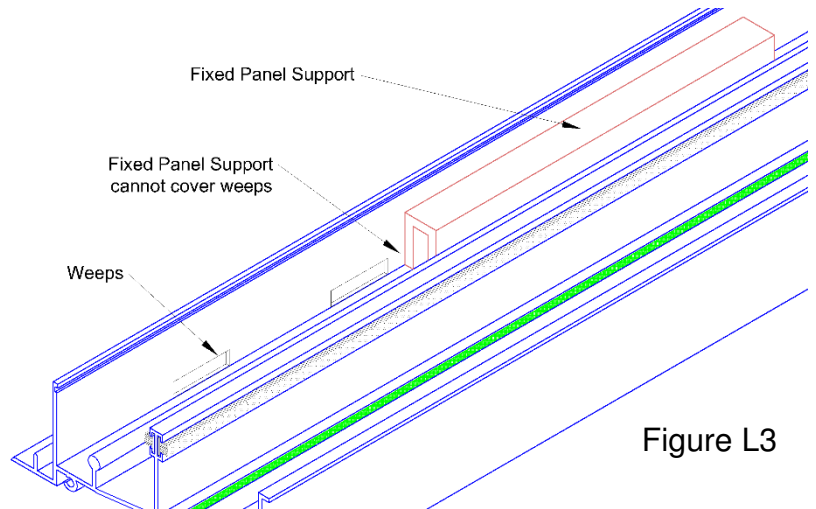
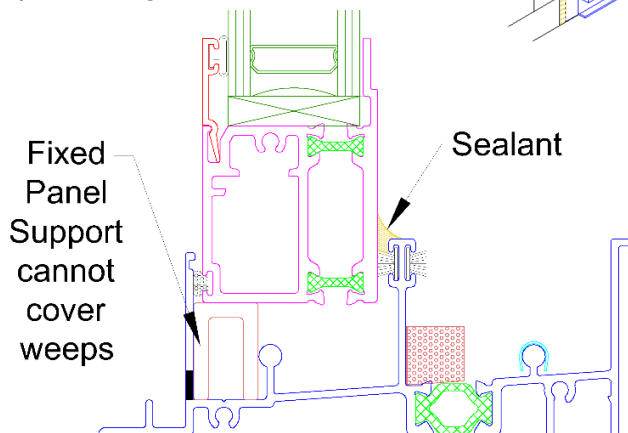

Figure L3
Figure L5
- A. Insert the Fixed Panel Supports in front of the exterior roller track where it will support the fixed panel (See Figure L5). The support cannot cover the weeps, so place one approximately 6" from the fixed jamb (See Figure L3) and one where the meeting stile will fall on the sill. If the panel is wider than 32", place a third support between the other two supports.